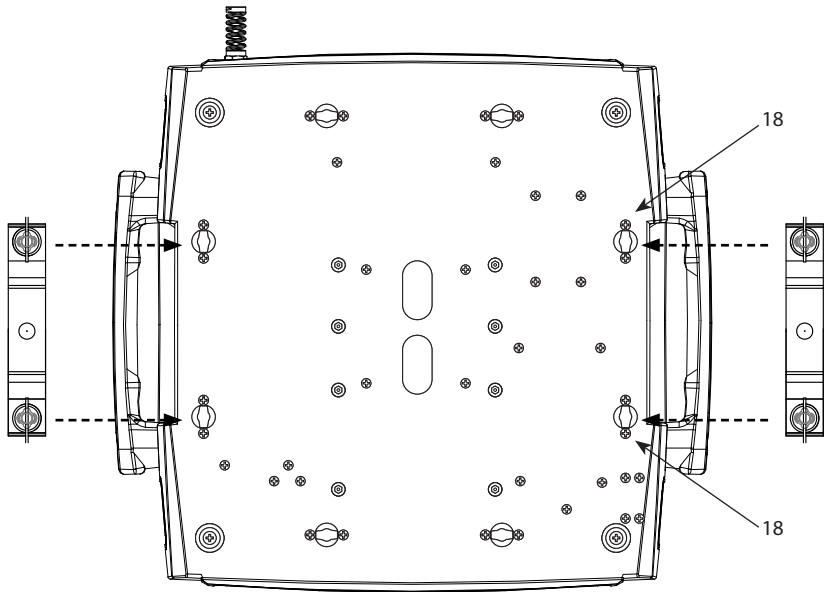

Fig.4
The Z1200SPOT may be set up on a solid and even surface. By means of the fixing facilities of the base plate, the unit can also be mounted upside down to a cross arm. The base plate is shown in fig.4. For fixing, stable mounting clips are required. According to the figure, the bolts of the brackets are placed into the openings (18) provided in the base plate and turned clockwise until they lock (to the stop). The mounting place must be of sufficient stability and be able to support a weight of 10 times of the unit's weight.